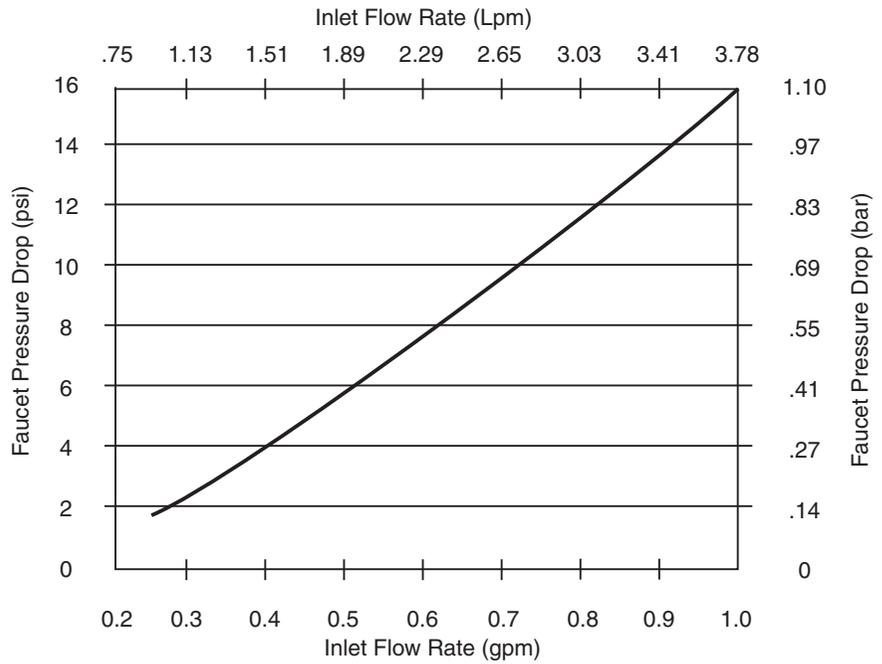

Figure 8
2. Using the estimated flow rate found in step 1 above, find the pressure drop through the tubing with Figure 8.
A: According to Figure 8, the faucet pressure drop will be 3.8 psi (0.26 bar).
Use Figure 8 and the Inlet Flow Rate of 0.49 gpm to estimate the Faucet Pressure Drop =